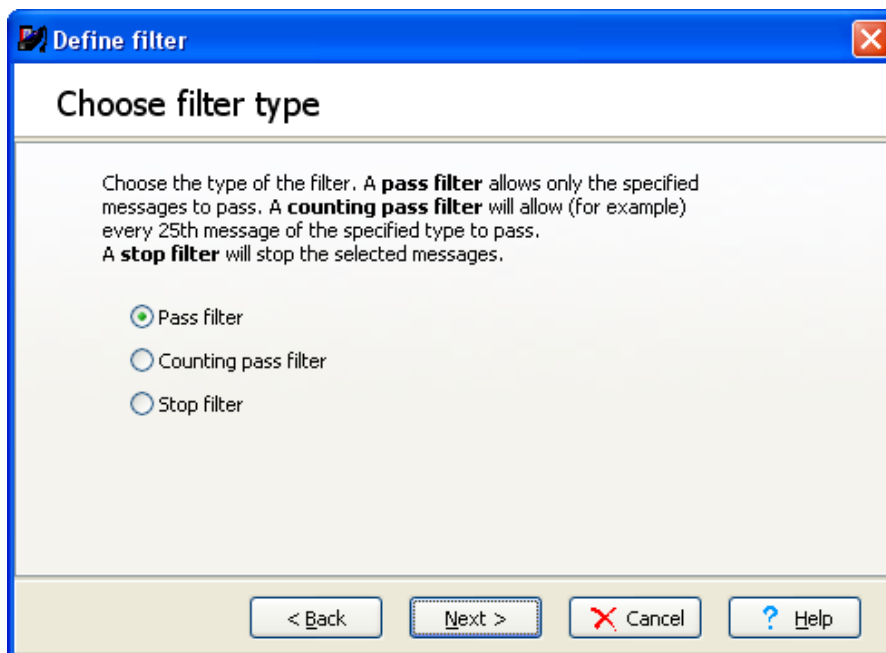

Figure 18. Choose filter type.
- Check the Pass filter box if not already checked. See Figure 18.